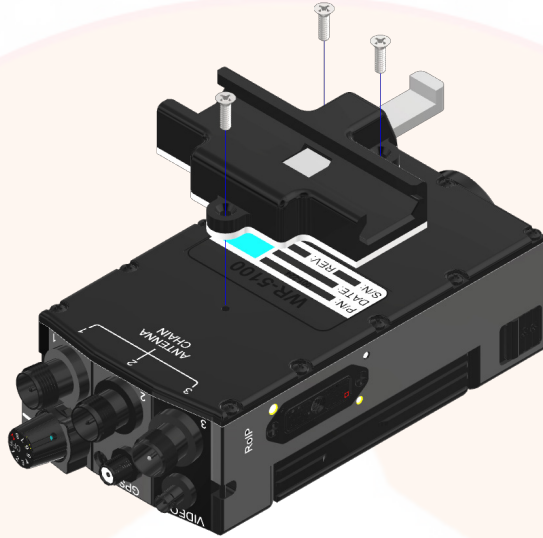

Figure 24: MPU5 Radio Plate
1. Install the MPU5 Radio Plate (**Figure 24**), oriented as shown above, onto the MPU5 radio using the provided screws (3x).